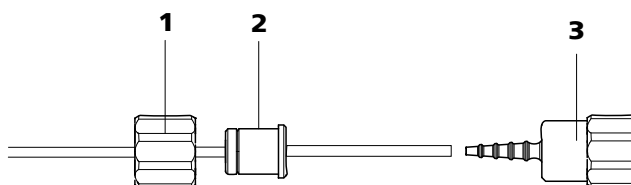

Figure 34 Install pump tubing connection without filter
- **Case B:** a 6.2744.160 pump tubing connection **without filter** (see Figure 34, page 61).